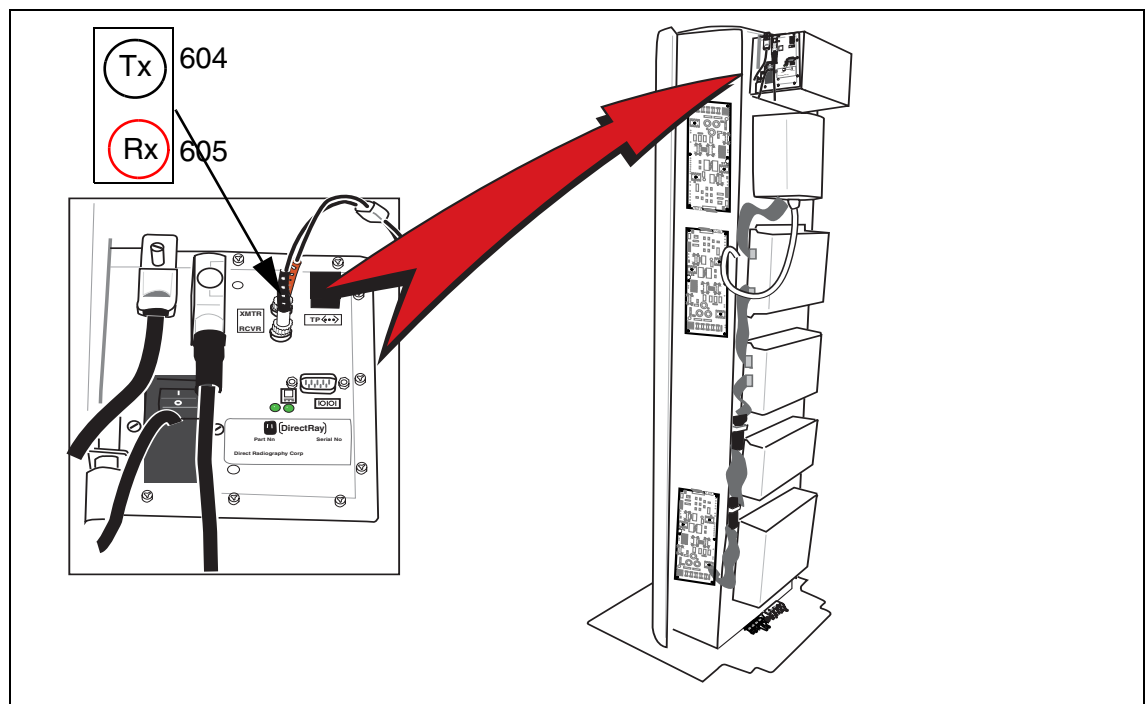

Fig. 3 BRICK connection
2. Connect the fibre optics cable (1/Fig. 3) to the BRICK in the MAMMOMAT stand.